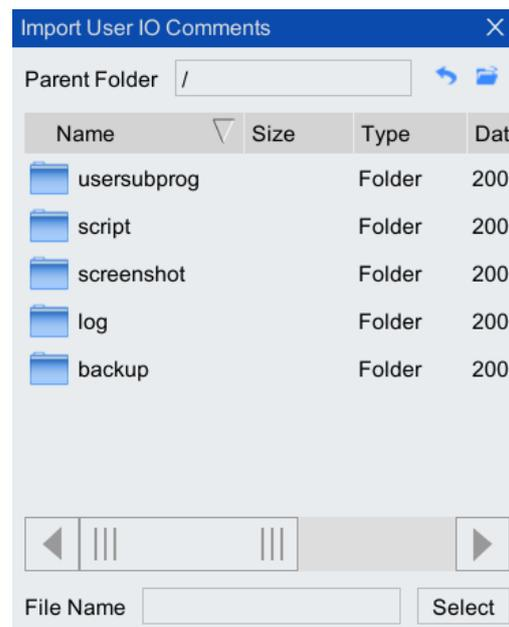

Figure 7-10 "Import user IO comments" list box
Step1. In the main interface of the teach pendant, click "File > Restore Backup > User IO Comment" option, and the "Import User IO Comment" list box as shown in Figure 7-10 will pop up.